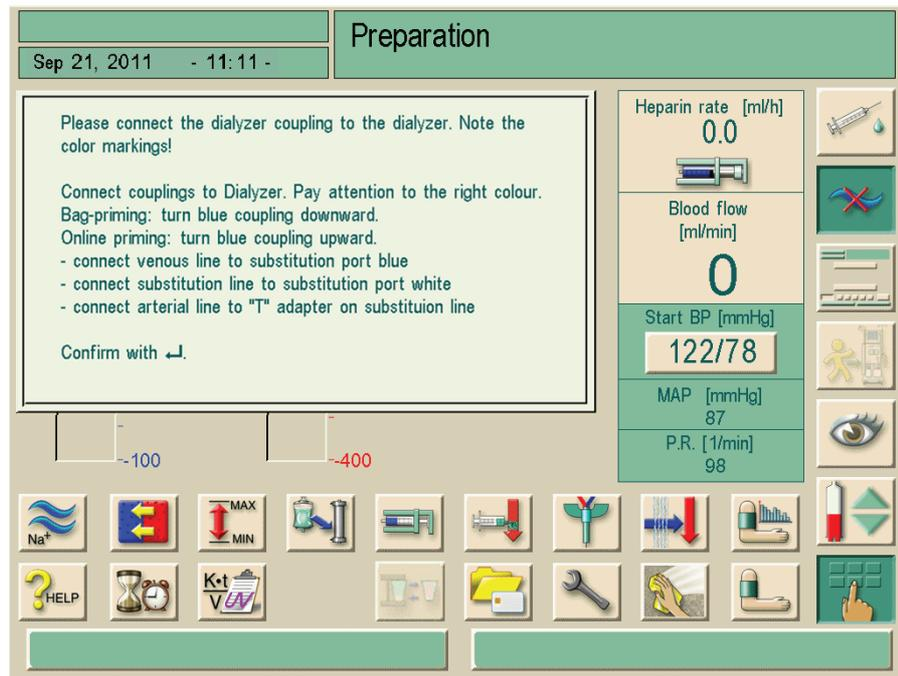

Fig. 9-4 Information window for connection
- ↳ The confirmation window (Fig. 9-4 Information window for connection (148)) appears.